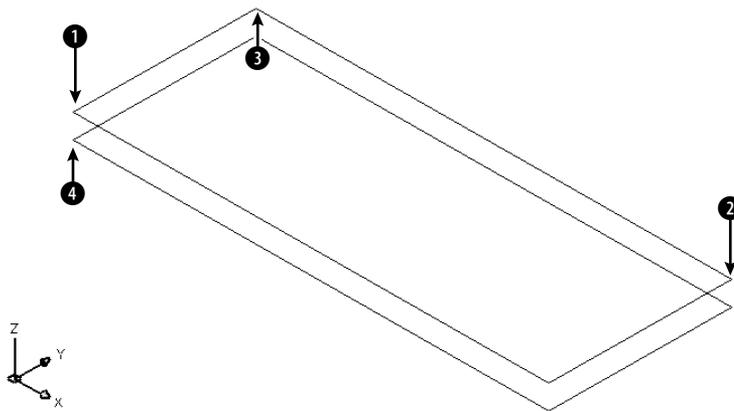
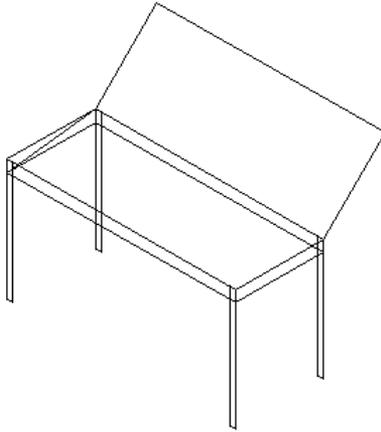

Figure 21-7: The two rectangles, shown from Southeast Isometric view.
Figure 21-8: The completed wireframe piano bench.
5. Choose **View** ⇨ **3D Views** ⇨ **SE Isometric**. Now you can see the two rectangles, as shown in Figure 21-7.
- Specify first point: *Pick the endpoint at ❶ in Figure 21-7.*
11. To draw an open cover for the piano bench, start the LINE command. Start it at the endpoint at ❷ in Figure 21-7. At the **Specify next point or [Undo]:** prompt, type **@15<90<45** ↵. You know the length of the line because the cover is the same as the width of the piano bench. At the **Specify next point or [Undo]:** prompt, turn on ORTHO, move the cursor parallel to the length of the bench, and type **39**. At the **Specify next point or [Close/Undo]:** prompt, use the Endpoint object snap to pick ❸. End the LINE command. Zoom out and pan so you can see the entire bench.
12. To draw some bracing inside the bench, start the LINE command again. At the **Specify first point:** prompt, choose the endpoint at ❹. At the **Specify next point or [Undo]:** prompt, type **@15<90,2** ↵. End the LINE command. Here, cylindrical coordinates are ideal because you don't know the length of the line but you know the change in the X and Z coordinates (the width and the height of the bench's body, respectively).
13. Save your drawing. It should look like Figure 21-8.